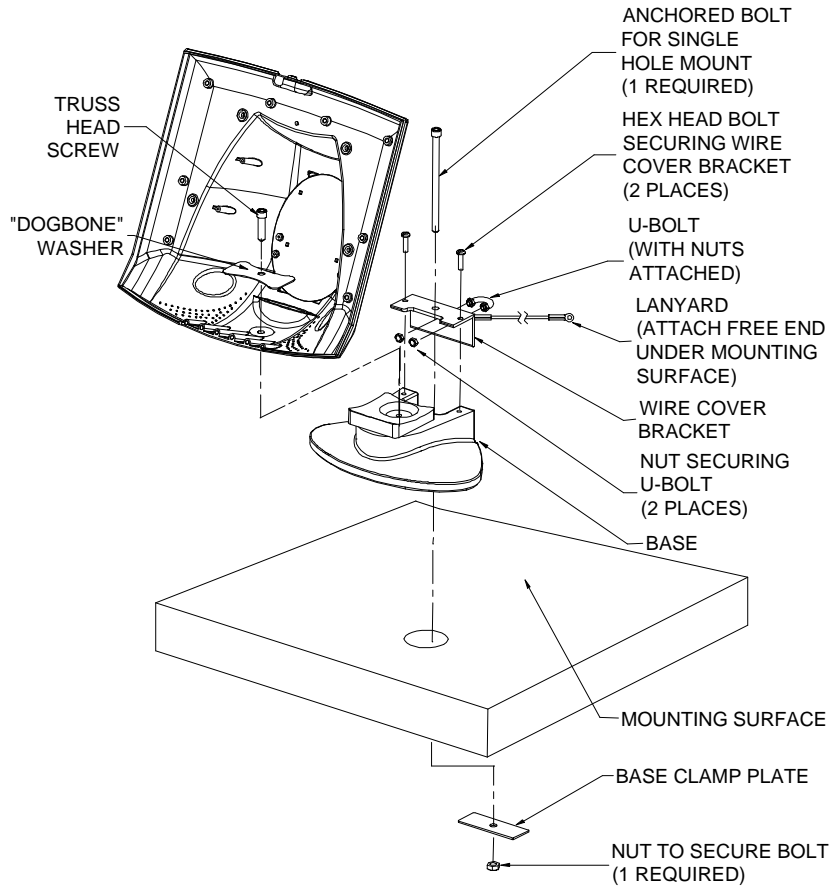

FIGURE 10 - SINGLE HOLE MOUNT - TABLE OR BAR TOP MOUNTING OF TERMINAL
4. Attach the 2 nuts to the U-bolt and then secure the U-bolt and the lanyard to the wire cover bracket using the 2 kepnuts as shown in Figure 10. Place the base over the hole in the mounting surface, aligning the edge of the hole with the back of the base and centering the hole within the cutout on the back of the base.
6. Secure the base to the mounting surface by installing an anchored bolt (up to 3/8") through the middle hole in the wire cover bracket. Anchor the bolt underneath the mounting surface with the supplied base clamp plate and nut as shown in Figure 10.
8. Secure the terminal to the base with the supplied "dogbone" washer (with the hole in the "dogbone" washer closest to the front of the terminal) and truss head screw (3/8 - 16 x 1 1/4 L) as shown in Figure 10. Tighten the screw until the "dogbone" washer conforms to the shape of the terminal.